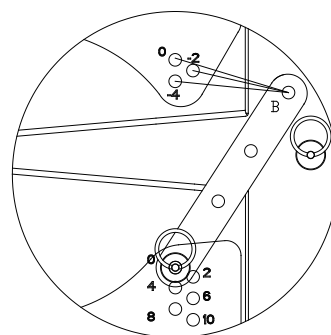

Figure 2 ($-2^{\circ} \sim -4^{\circ}$ adjustment)
- 2) $-2^{\circ} \sim -4^{\circ}$ adjustment: insert the pin into 0 hole at A, and insert into the relative hole at B (refer to figure 2), e.g. if you need to adjust to -2 degree, insert into 0 hole at A, and 2 degree hole at B.